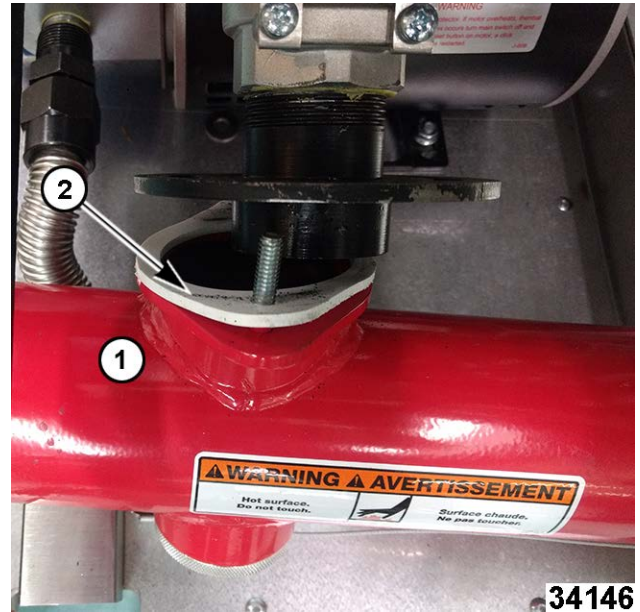

Fig. 47
3. Remove drain manifold (1, Fig. 47) and flange gasket (2, Fig. 47) if fryer has a filter system.